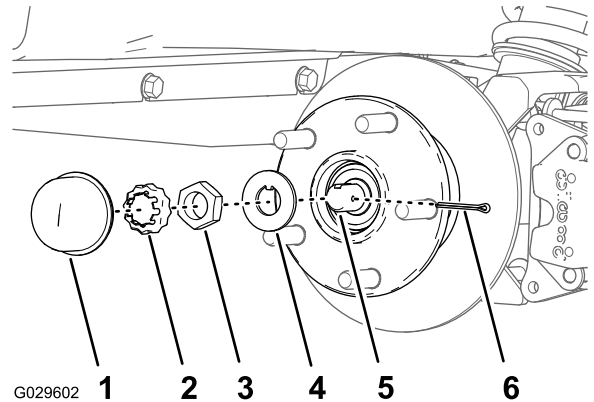
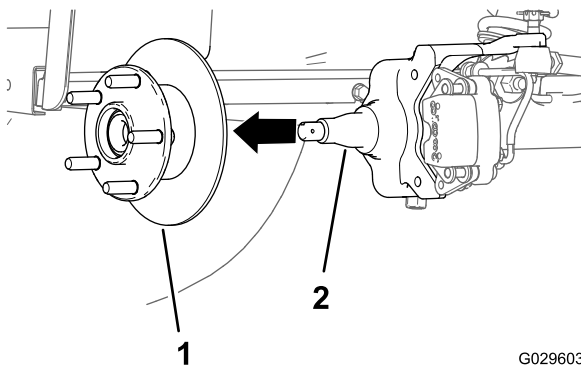

Figure 28
Figure 29
4. Remove the dust cap from the hub (Figure 28).
5. Remove the cotter pin and nut retainer from the spindle and spindle nut (Figure 28).
6. Remove the spindle nut from the spindle, and separate the hub and rotor assembly from the spindle (Figure 28 and Figure 29).